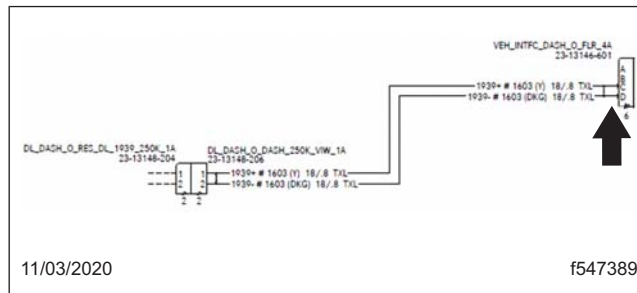

Fig. 12, Remove Harness A66-08440-000 from the VEH_INTFC_DASH_O_FLR_4A Connector
2. Remove harness A66-08440-000 from the 6 pin VEH_INTFC_DASH_O_FLR_4A connector. See **Fig. 12** from schematic G66-07101-004.